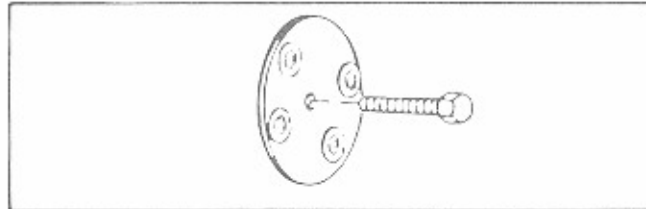

Figure 1-3. Shipping Bolt Removal
1. Remove the CD changer mechanism shipping bolt from the back of the phonograph cabinet (see figure 1-3).